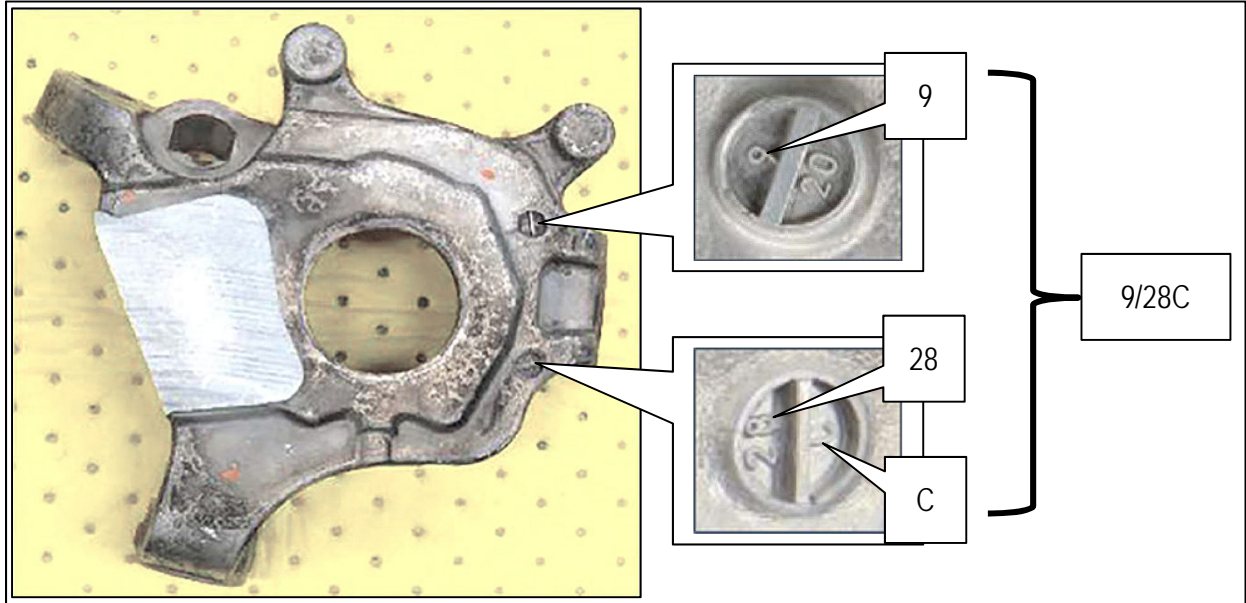

Figure 22
28. Locate the casting stamp dates on each suspension knuckle, where indicated in Figure 22.